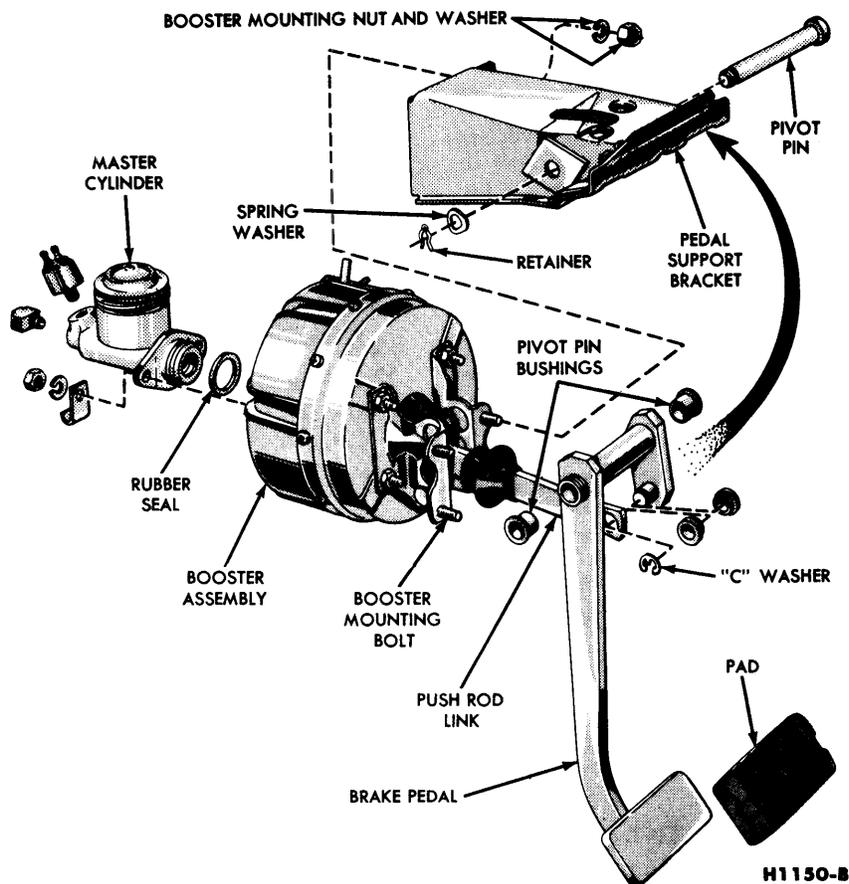

FIG. 5—Brake Pedal and Related Parts
4. Remove the rubber seal from the groove in the master cylinder (Fig. 5).
ing (Fig. 5), and install the master cylinder over the push rod onto the two studs that are integral with the booster body. Install the lockwashers and retaining nuts. Torque to specification.
1. Remove the C-washer that retains the push rod link to the brake pedal assembly (Fig. 5).
4. Install the spring washer and secure the pivot pin in place by installing the retainer in the groove at the left end of the pin (Fig. 5).